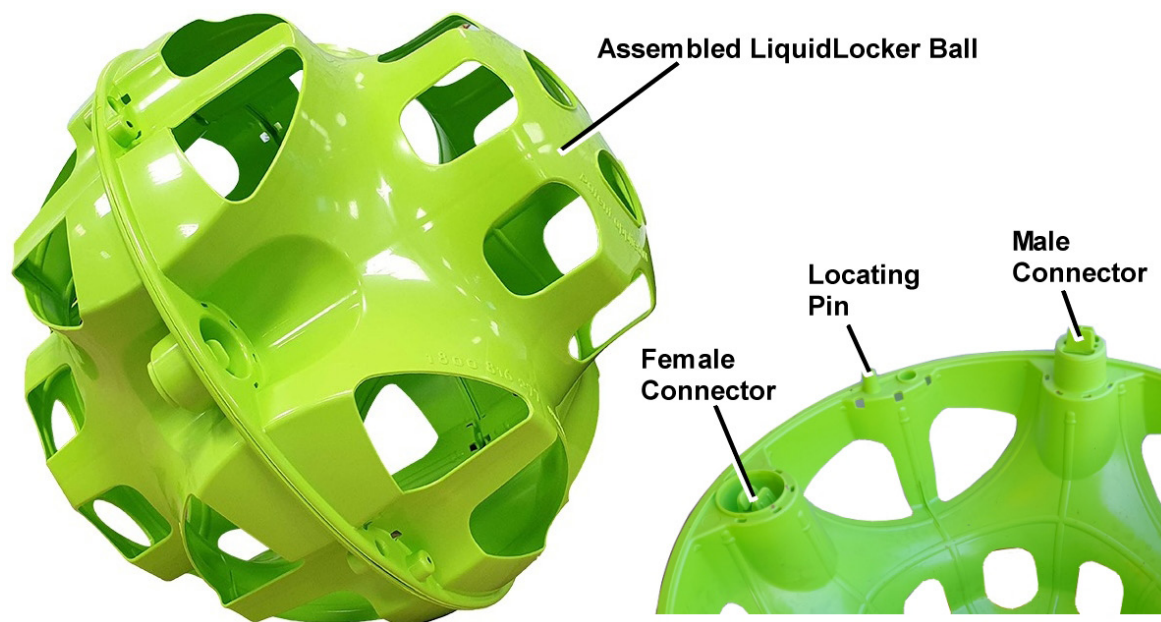

Figure 2 – Component Identification
5. Align the locating pins and connection points, refer to Figure 2. Firmly press to clip the two halves together. Ensure each connection point has fully engaged.